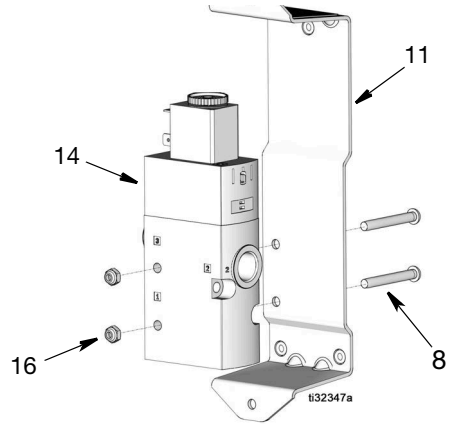

FIG. 29
2. Align solenoid valve (14) with bracket (11). Install two screws (8) and nuts (16), as shown in FIG. 29, to secure solenoid valve (14) to bracket (11). Tighten nuts securely.